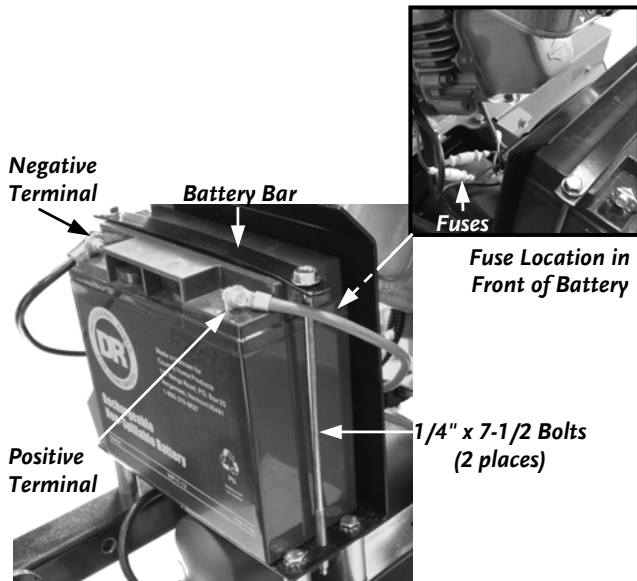

Figure 4
5. Place the Battery in the Battery Bracket and secure it using the Battery Bar with two (2) 1/4" x 7-1/2" Bolts and 1/4" Lock Nuts from the Hardware Bag using two (2) 7/16" Wrenches (**Figure 4**).
9. Using two (2) 5/16" Wrenches, attach the Battery Cables to the Battery (**Figure 4**).